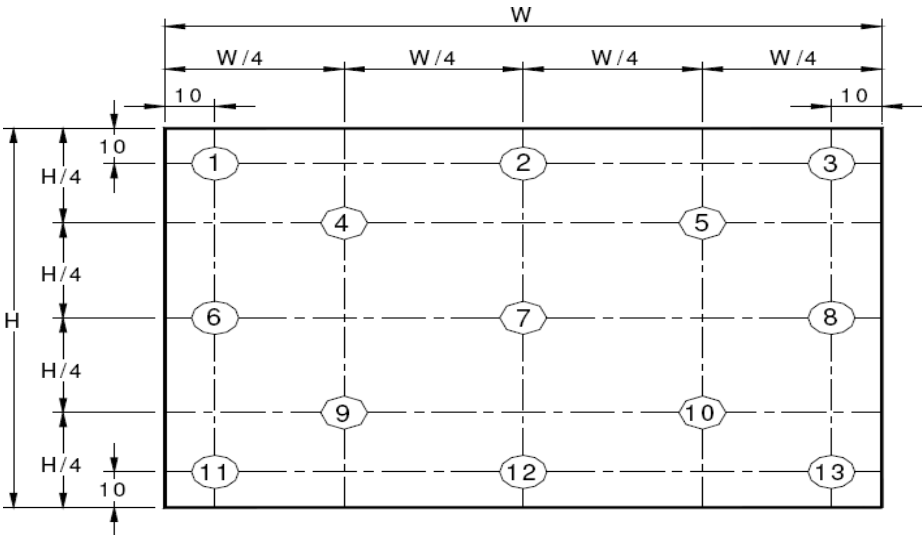

Figure 9. Uniformity Measurement Locations (13 points)
<p>Notes :</p> <p>1. Viewing angle is the angle at which the contrast ratio is greater than 10. The viewing angles are determined for the horizontal or 3, 9 o'clock direction and the vertical or 6, 12 o'clock direction with respect to the optical axis which is normal to the LCD surface (see Figure 7).</p> <p>2. Contrast measurements shall be made at viewing angle of <math>\Theta = 0</math> and at the center of the LCD surface. Luminance shall be measured with all pixels in the view field set first to white, then to the dark (black) state . (see Figure 7) Luminance Contrast Ratio (CR) is defined mathematically.</p> <div><div>CR =</div><div><div>Luminance when displaying a white raster</div><div>Luminance when displaying a black raster</div></div></div> <p>3. Center Luminance of white is defined as luminance values of 5 point average across the LCD surface. Luminance shall be measured with all pixels in the view field set first to white. This measurement shall be taken at the locations shown in Figure 8 for a total of the measurements per display.</p> <p>4. The White luminance uniformity on LCD surface is then expressed as : <math>\Delta Y = \text{Minimum Luminance of 5(or 13) points} / \text{Maximum Luminance of 5(or 13) points.}</math>(see Figure 8 and Figure 9).</p> <p>5. The color chromaticity coordinates specified in Table 5 shall be calculated from the spectral data measured with all pixels first in red, green, blue and white. Measurements shall be made at the center of the panel.</p> <p>6. The electro-optical response time measurements shall be made as Figure 10 by switching the “data” input signal ON and OFF. The times needed for the luminance to change from 10% to 90% is <math>T_f</math>, and 90% to 10% is <math>T_r</math>.</p> <p>7. Cross-Talk of one area of the LCD surface by another shall be measured by comparing the luminance (YA) of a 25mm diameter area, with all display pixels set to a gray level, to the luminance (YB) of that same area when any adjacent area is driven dark. (See Figure 11).</p>
The White luminance uniformity on LCD surface is then expressed as :  $\Delta Y5$  = Minimum Luminance of five points / Maximum Luminance of five points (see Figure 8) ,  $\Delta Y13$  = Minimum Luminance of 13 points /Maximum Luminance of 13 points (see Figure 9).